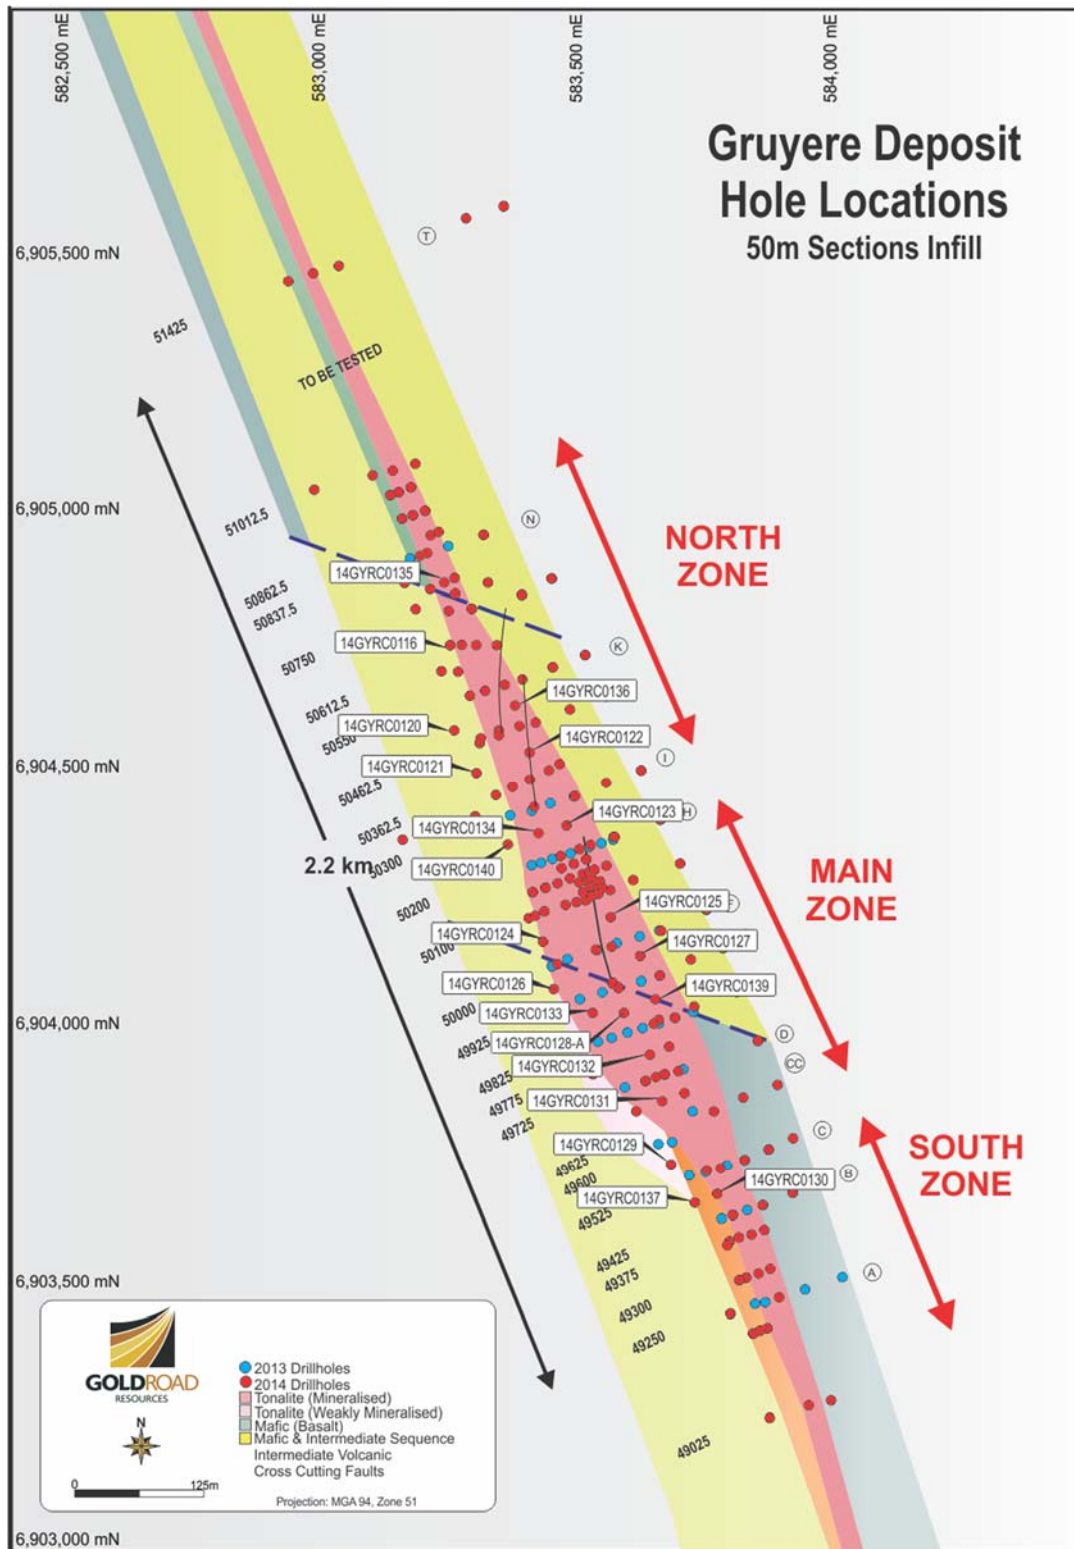

Figure 1: Gruyere plan projection illustrating interpreted geology and location of recent drilling on 50 metre infill sections
1. 20 Reverse Circulation (RC) drill holes which in-filled on a 50 metre section spacing to an approximate depth of 150 metres below surface (**50 Metre Sections Infill**) (Figure 1 - 2,943 metres drilled);